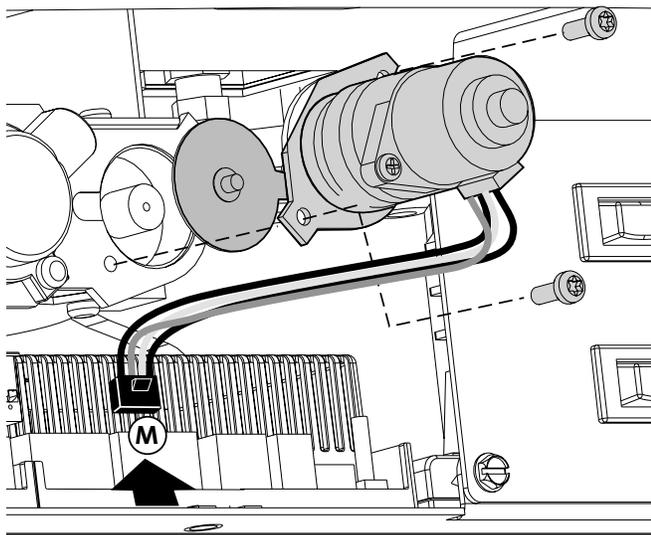

Figure 47. Flame Control Motor installation.
1. Using a Torx T-20 screwdriver, remove the two screws from the front of the manual regulator and remove those components as shown in fig. 47.
3. Connect the wire harness to terminal (M) on the front side of the IFC board.